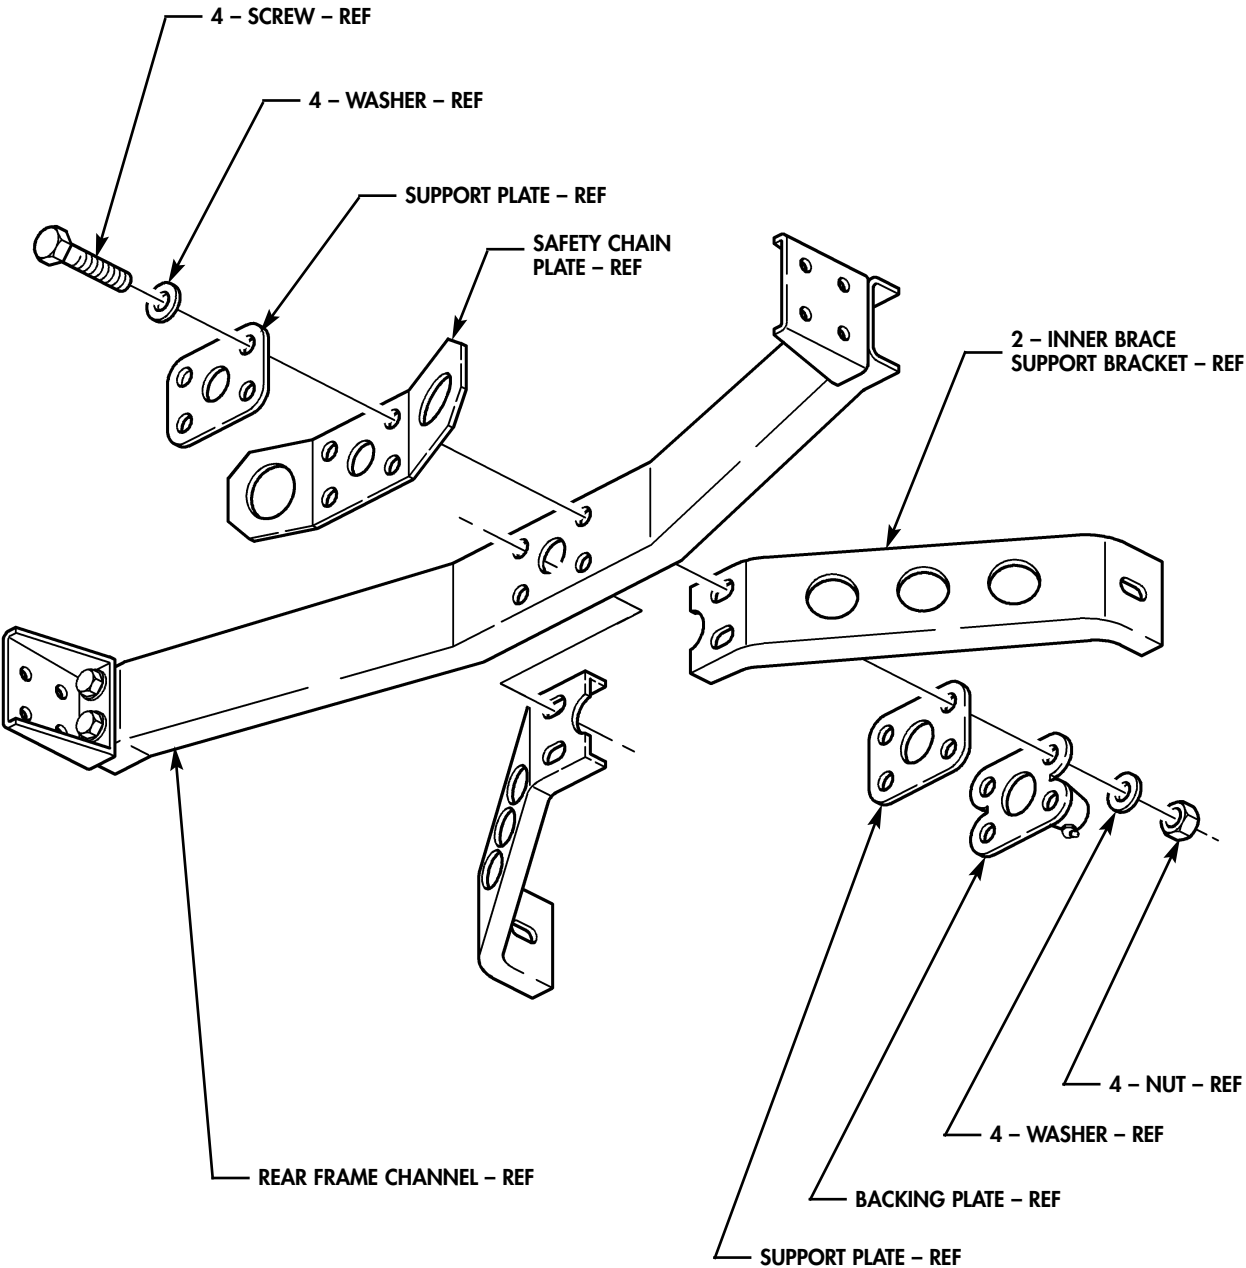

FIGURE 8
- (6) Remove four nuts, eight washers, four screws, two support plates, backing plate, safety chain plate, and two inner brace support brackets from rear frame channel as shown in figure 8. Discard nuts, washers, screws, one support plate, locking plate, and two inner brace brackets.